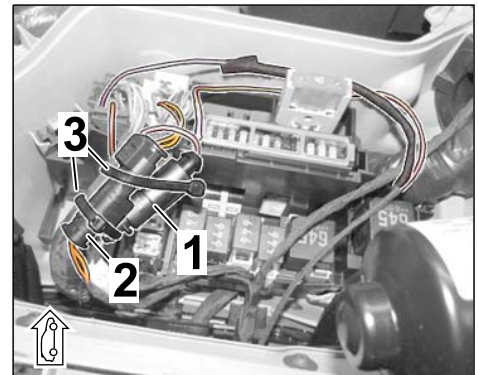

Figure 44
3.6 Secure plug connections (CAN lines/terminal 87A) to existing lines/components in the fuse box (E-box) in the cowl panel with tie-wraps without tension and so that no chafing occurs (⇒ *Figure 44*).